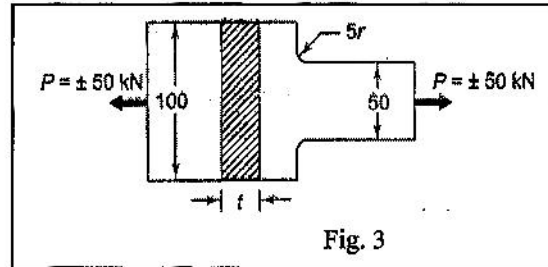

Fig. 3
6. (a) A component machined from a plate made of steel 45C8 ( $\sigma_{ut}=630\text{N/mm}^2$ ) is shown in Fig.3. It is subjected to a completely reversed axial force of 50 kN. The expected reliability is 90% (reliability factor 0.9) and the factor of safety is 2. The surface finish factor and size factor are 0.76 and 0.85 respectively.